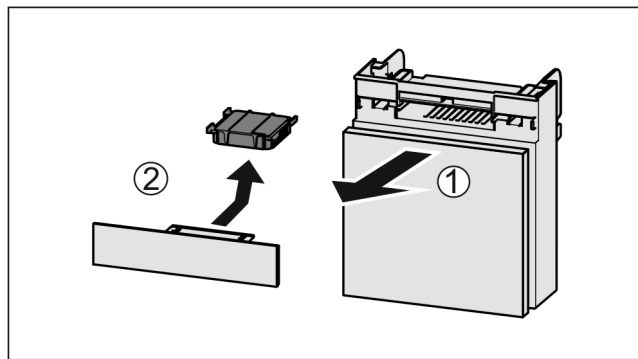

Fig. 242
- ▶ Pull out the compartment Fig. 242 (1).
- ▶ Remove the carbon filter Fig. 242 (2).